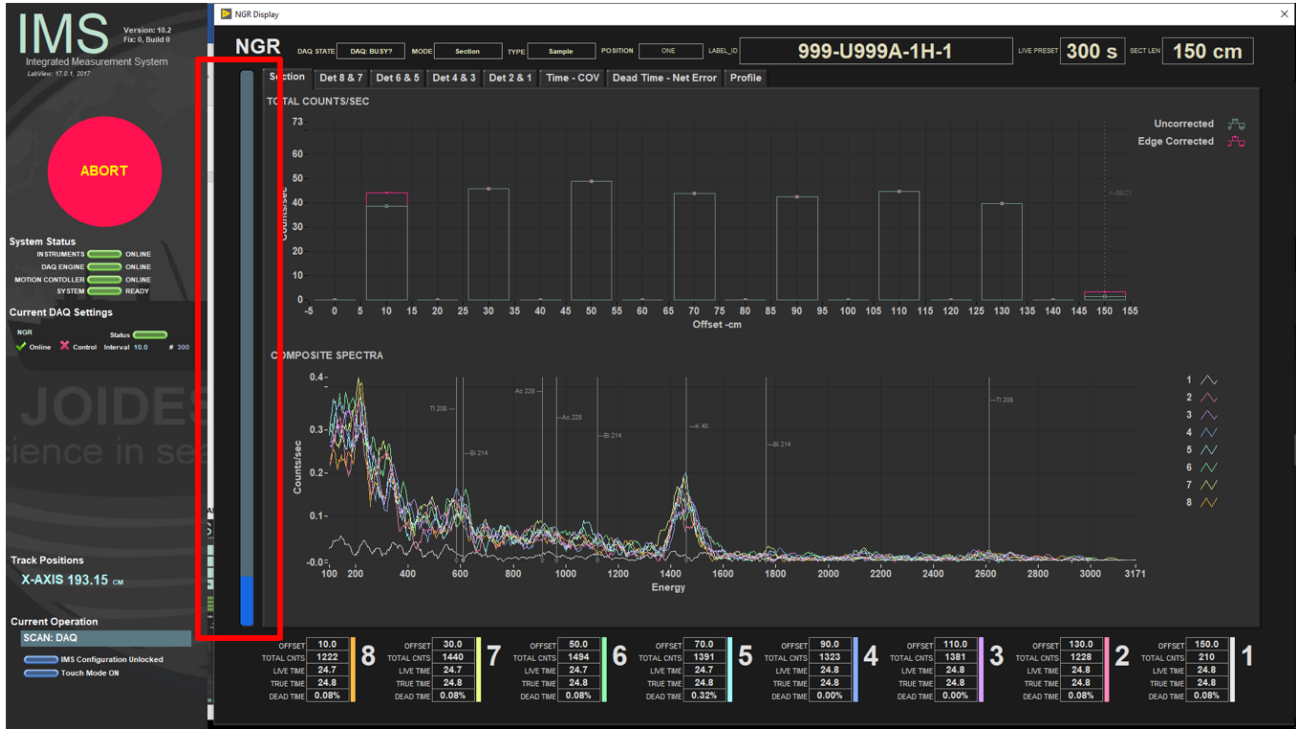

Figure 5: Run Window. Spectra and Total Counts can be seen. There are also tabs for the individual detectors at the top of the screen that can be selected.
This starts the automated measurement: the boat moves to the home position, and then moves to measurement position two and begins measurement. Approximately halfway into the measurement, the boat is pulled out 10 cm to measurement position one (this will not occur if the user has chosen only to measure one position on a high-recovery cruise). The bar on the left side of the screen tracks the progress of each measurement (Fig 5. Outlined in red)
1. Click the desktop icon to launch MegaUploadaTron (MUT) and log in using LIMS credentials. The application window displays with a list of the data files ready to be uploaded (Figure 5). If program is already running, locate icon on taskbar.